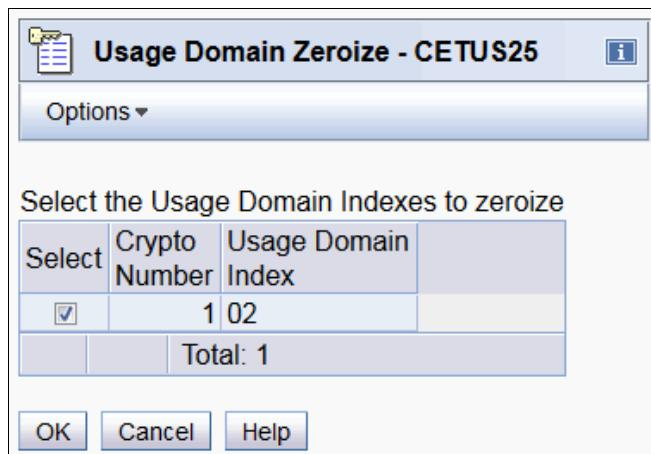

Figure 10-9 SE: Change LPAR Cryptographic Controls Zeroize
- When you remove the only definition of the cryptographic lists, the zeroize window opens (Figure 10-9).